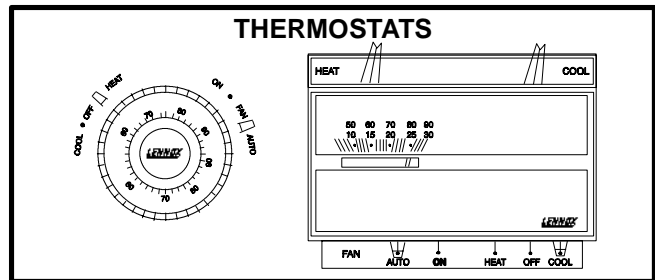

FIGURE 1
- 2 - Set the thermostat to the lowest setting. See figure 1.